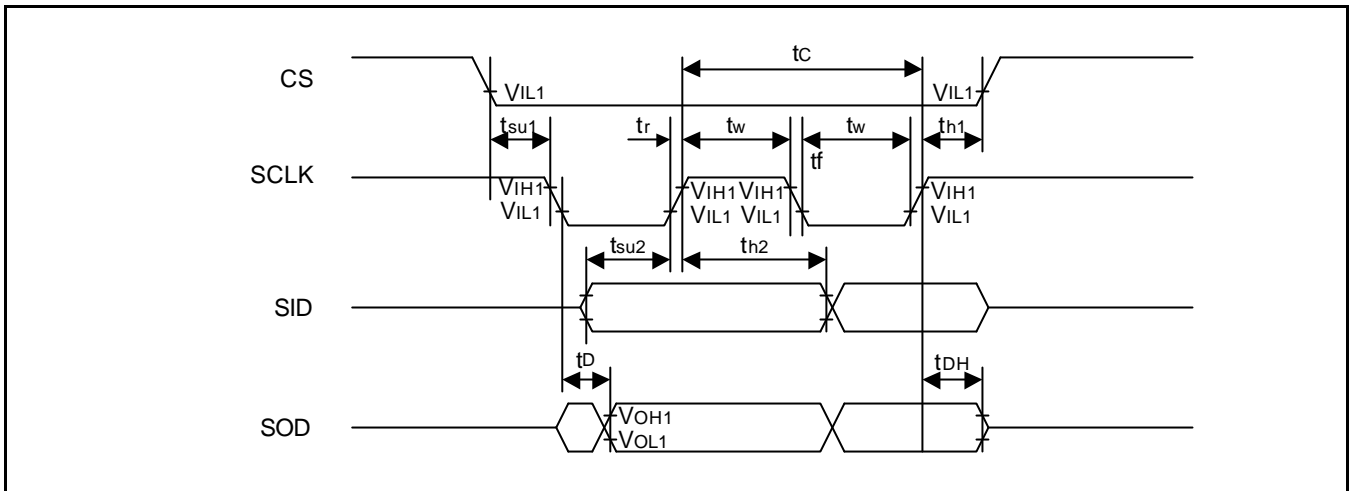

Figure 17. Serial Interface Mode
| (3) Serial InterfaceMode(refer to Figure 17) | Serial clock cycle time        | tc              | 0.5 | –   | 20  | μs   |
| (6) Serial InterfaceMode(refer to Figure 17) | Serial clock cycle time        | $t_c$      | 1    | –   | 20  | $\mu\text{s}$ |